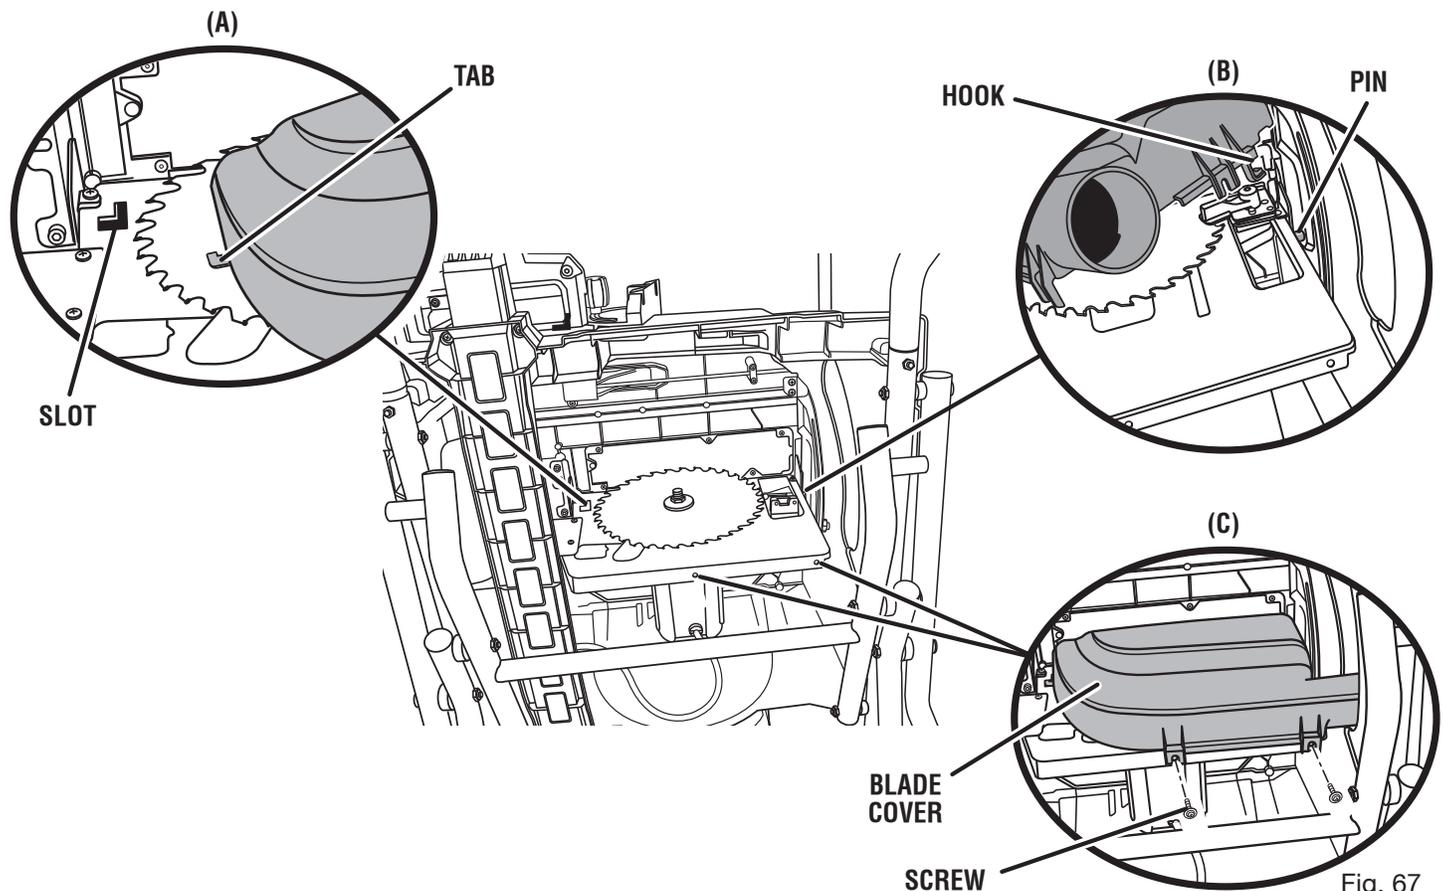

Fig. 67
- Loosen screws. Lift and remove the blade cover. Clean saw dust and wood chips from the blade cover. Close and secure. (See figure 67.)